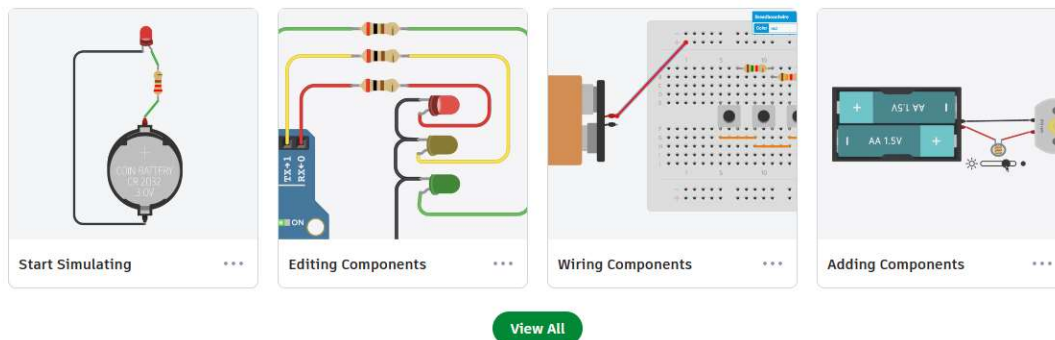

Fig. 4. *Learn circuits* page.
- In the *Resources* tab we will find application examples. In the *Learning centre* and under *Learn circuits* there are some guided examples that allow you to get started in electronics (Fig. 4).